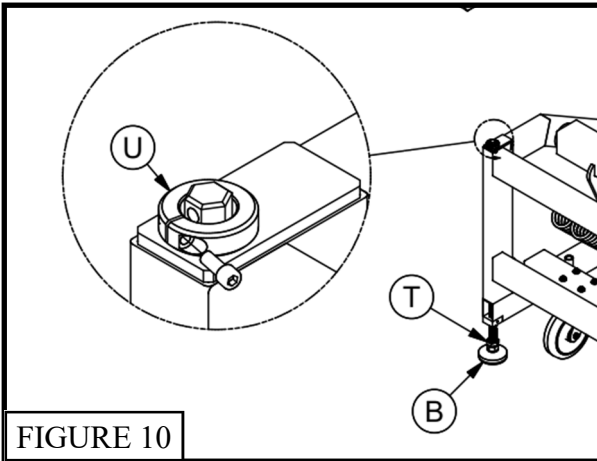

FIGURE 10
19. With the top of the *Breakaway Goal* (L) at 10', lower the *Lock Collars* (U) preinstalled on the leveling screws until they are tight against the *Portable Base* (A). Tighten the set screws to insure easy repeat adjustment to the official 10' *Breakaway Goal* (L) height. See Figure 10.